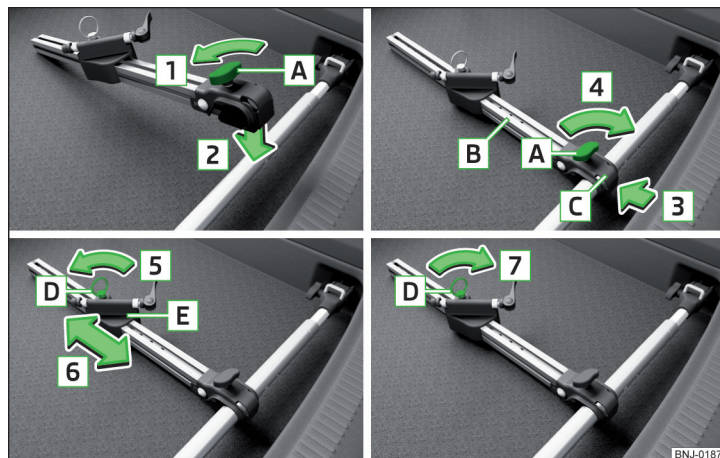

Fig. 107 Fitting the bike rack
- To **install**, loosen screw **A** on the bicycle rack (hereinafter only referred to as "carrier") in direction of arrow **1** » Fig. 107.
- If you want to transport two bicycles, loosen screw **A** » Fig. 107 on page 83 on the carrier and move the carrier along with attached bike to the left.
- Tighten screw **A** » Fig. 107 on page 83 on the support.
- If necessary, the position of the sliding part **E** » Fig. 107 on page 83 can be adjusted.